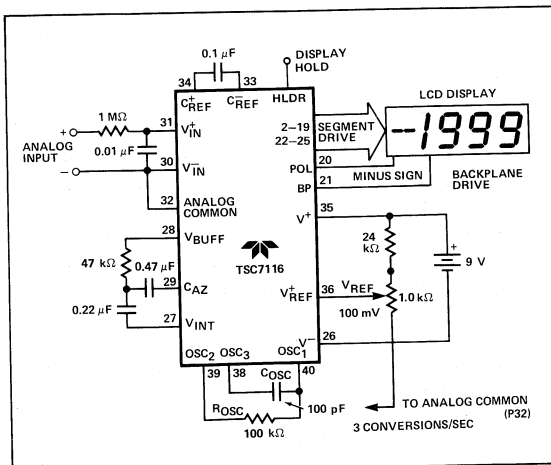
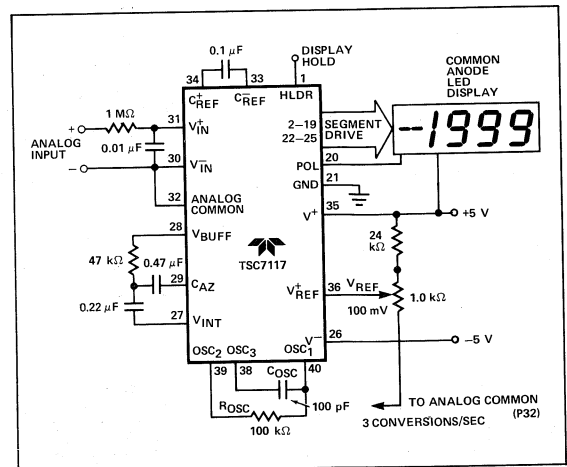

Figure 1: Typical TSC7116 Operating Circuit
Figure 2: Typical TSC7117 Operating Circuit
- Unless otherwise noted, specifications apply to both the TSC7116 and TSC7117 at $T_A = 25^\circ\text{C}$, $f_{\text{LOCK}} = 48 \text{ kHz}$. TSC7116 is tested in the circuit of Figure 1. TSC7117 is tested in the circuit of Figure 2.